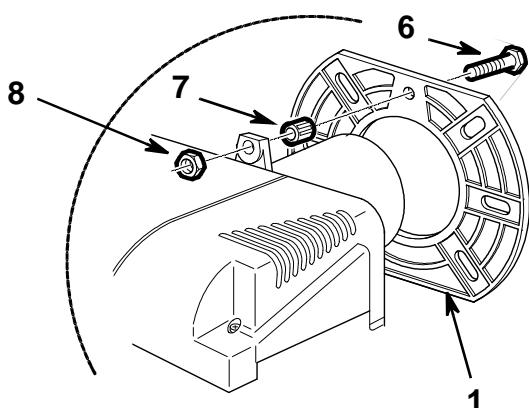

Fig. 5
- Fix the bolt (6) and nut (7) onto the flange (1) as in Fig. 5.